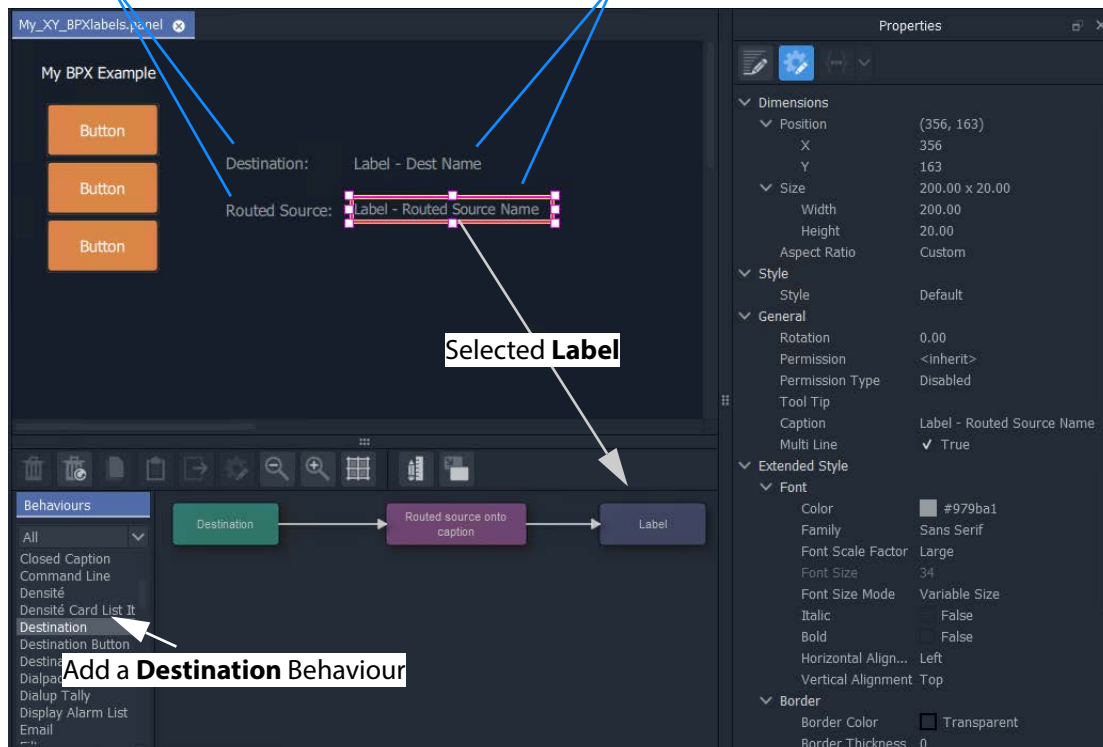

Fig. 14-55: Adding Labels
- 1 Add four **Label** widgets to the BPX panel. See Figure 14-55.
- 2 Set two labels to have fixed 'Caption' properties. See Figure 14-55.
- 4 Select one of the **Labels**. See Figure 14-55.
- 5 Add a **Destination** Behaviour. See Figure 14-55.